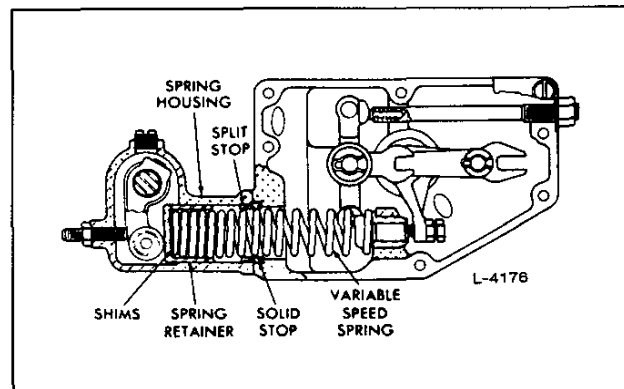

Fig. 6 – Location of Shims and Stops
3. Refer to Table 1 and determine the stops or shims required for the desired full-load speed. A split stop can only be used with a solid stop (Fig. 6).